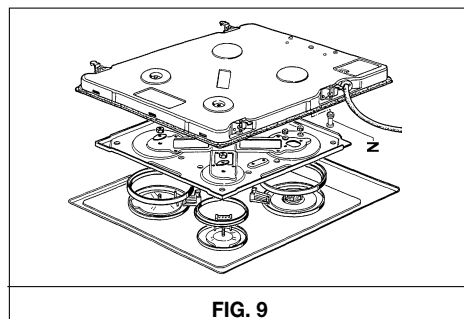

FIG. 9
For access to the various parts, remove the hotplate from the top of the cabinet. Then overturn it, unscrew screw "Z" and remove under part. (see fig. 9).
a) Remove the hotplate from the top of the cabinet, overturn it, unscrew screw "Z" and remove under part (see fig. 9).